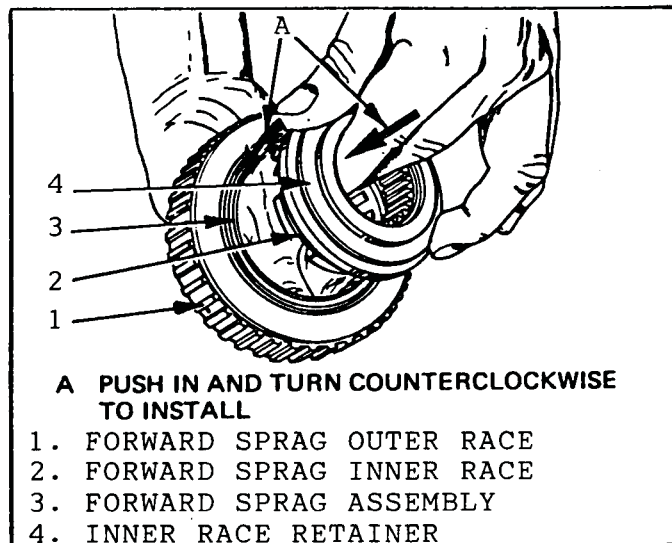

Figure 84
4. Install the inner race into the sprag assembly. Insert the race by pushing in and turning to the left as shown in Figure 84.